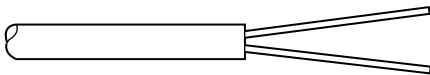

Figure 4-3. Stripping the Outer Insulation from the Twisted Pairs.
2. Strip the outer insulation from the twisted pairs about one inch from the end as shown in **Figure 4-3**.